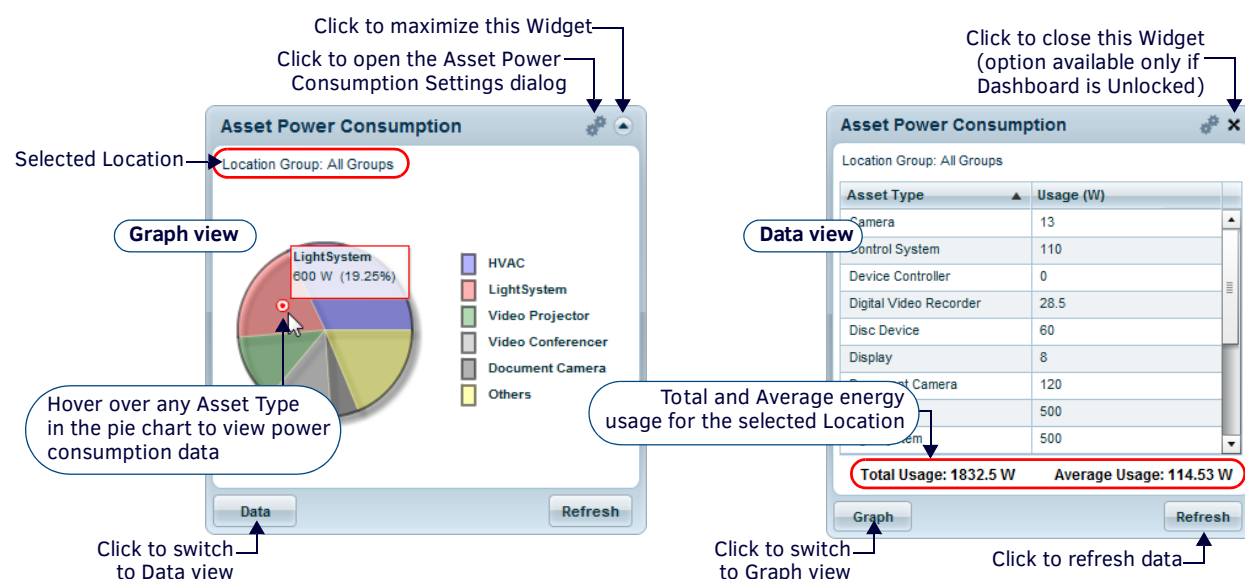
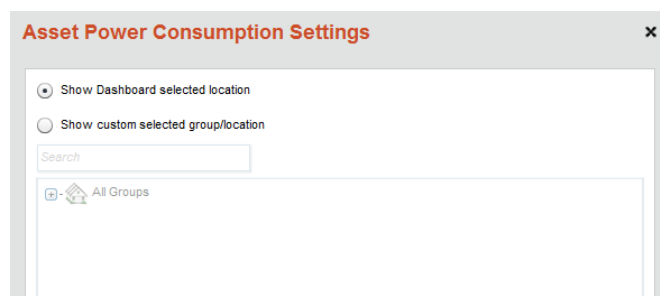

FIG. 106 Asset Power Consumption Widget
FIG. 107 Asset Power Consumption Settings dialog
1. Click the *Configuration* button in the upper-right corner of the widget's title bar (see FIG. 106 on page 72) to access the *Asset Power Consumption Settings* dialog (FIG. 107). Note that by default, **Show Dashboard selected location** is selected.
Note that the selected Location is indicated in the Widget (see FIG. 106 on page 72).